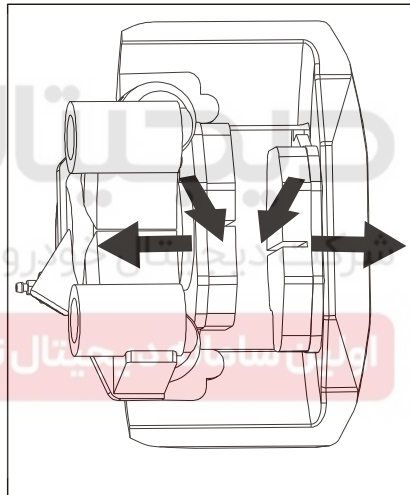

Fig.5-14 Installation of Brake Block
3) Install the brake block as shown in Fig.5-14. If required, renew it.